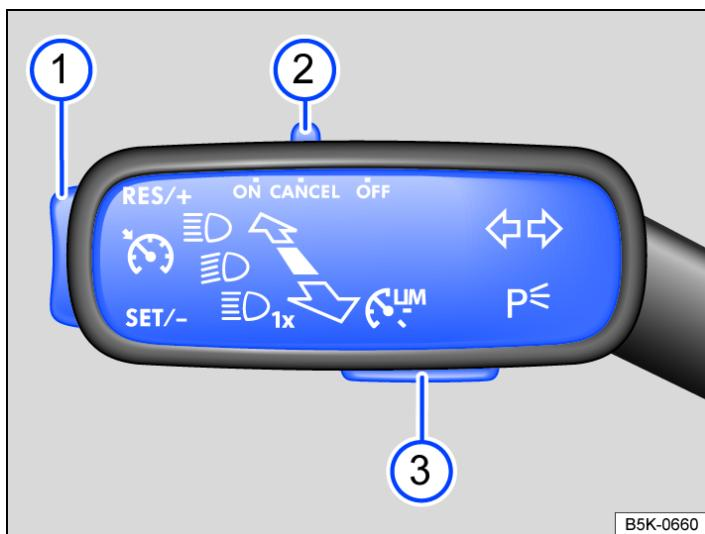

Fig. 1 On the left of the steering column: switch and buttons for operating the cruise control system.
- Move → Fig. 1 ② switch to position **ON**.
- Press → Fig. 1 ① button in the area **SET/-** while driving.